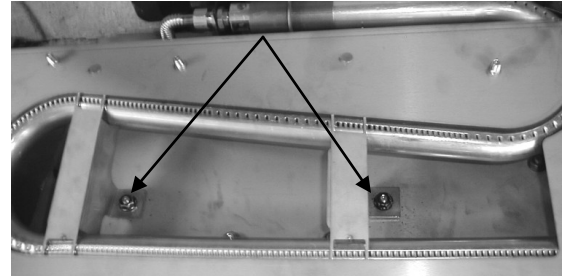

Figure 11A
## G) MILLIVOLT BOARD & BURNER ASSEMBLY REMOVAL / INSTALLATION - Figures 11A-11D.
7. Remove and save the (2) 1/4" nuts securing the burner cover. Figure 11A.
4. Re-install burner cover, aligning mounting holes in the burner brackets to the corresponding mounting studs on the millivolt board bottom. Figure 11A.
5. Secure with remaining (2) 1/4" nuts. Figure 11A.